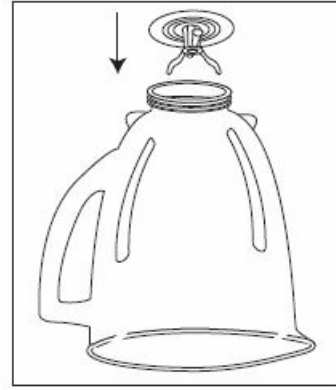

FIGURE 3
4. Place Blade System into Blender Jar. (Figure 3)